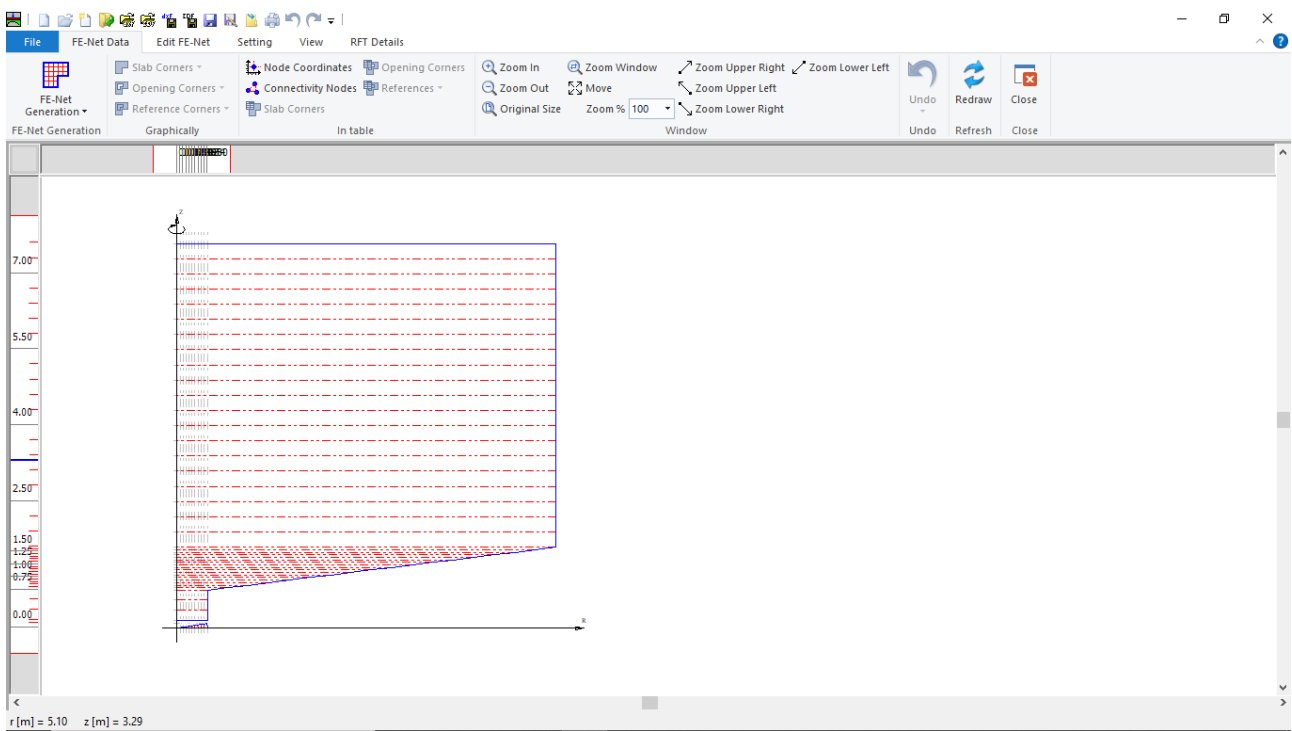

Figure 7.11 Generated FE-Net
Click "Finish" button, the FE-Net of the wall and a sector from the base appears in Figure 7.11
- Choose "Save" command from "File" menu in Figure 7.11 to save the data of the FE-Net
- Choose "Close" command from "File" menu in Figure 7.11 to close the "FE-Net" window and return to *ELPLA* main window